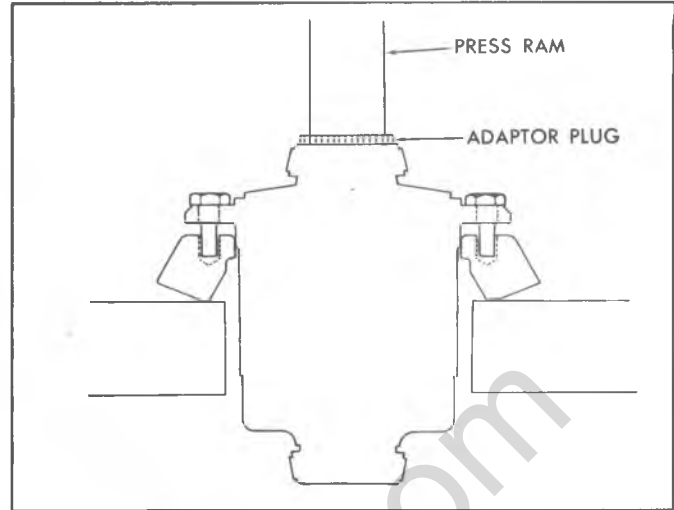

Fig. 5B--Ring Gear-to-Case Installation
- Liberally coat the differential case pilot with hypoid lubricant. Pre-align ring gear and differential case bolt holes, and press on adaptor plug J-8107-4 to initially start ring gear on case pilot, as shown in figure 5B.